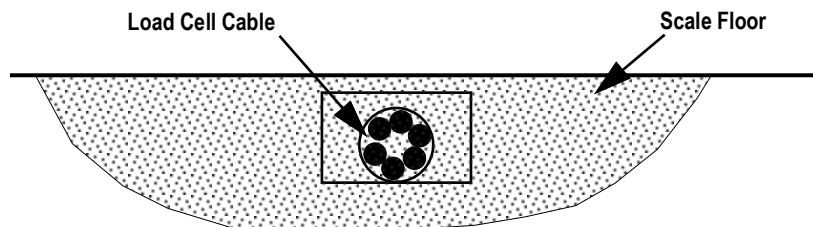

Figure 2-9. Cable Protection
10. The cable must be routed to the indicator in a manner that will protect the cable from damage. The method of cable protection in non-washdown applications is shown in Figure 2-9. Leave a loose coil of excess cable under the scale to facilitate lifting of the scale for servicing and cleaning.